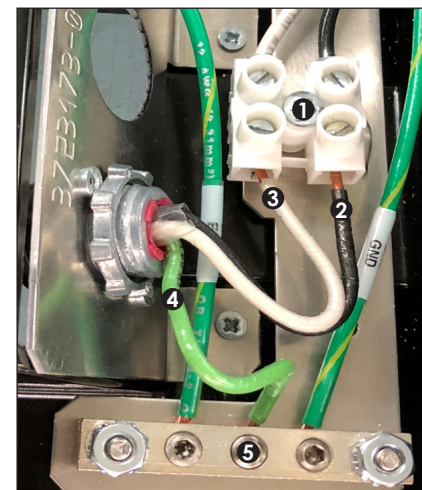

Figure 31: Power Entrance
- e. Terminate the green (ground) wire to the three-position metal terminal block. Use a 1/8" Allen wrench to tighten the wires into place. Refer to **Figure 31**.